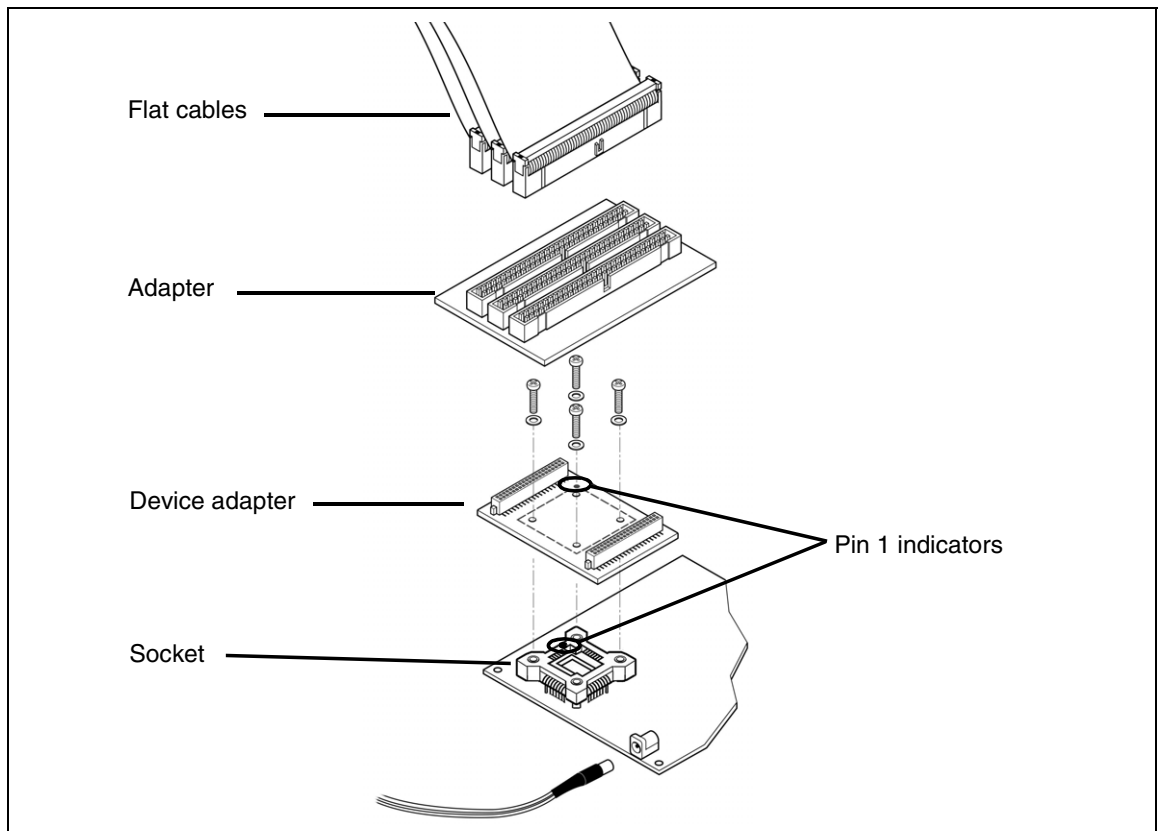

Figure 11: Connection for TQFP44
- 3 Connect the other end of each of the three 50-pin flat cables to the TQFP80/64/44 adapter (ref.: DB530), as shown in Figure 11.
- 5 Fix the device adapter (ref.: DB544) to the Yamaichi socket soldered on your application board using the provided screws (see Figure 11). Ensure that the device adapter's pin 1 indicator is aligned with the socket's pin 1 indicator.
- 6 Connect the adapter to the device adapter as shown in Figure 11. Refer to your *ST7-DVP3 Emulator User Manual* for information about connecting your emulator to your PC.